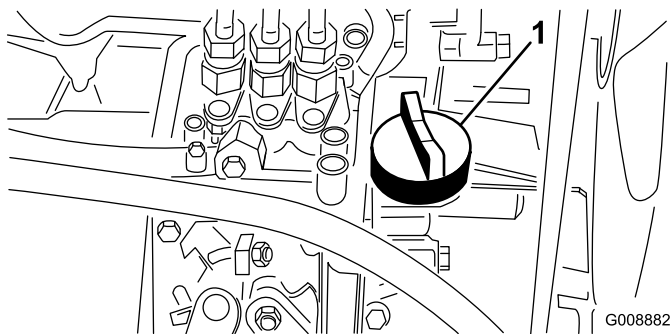

Figure 36
4. If the oil level is low, remove the oil fill cap (Figure 36) and gradually add small quantities of oil, checking the level frequently, until the level reaches the Full mark on the dipstick.